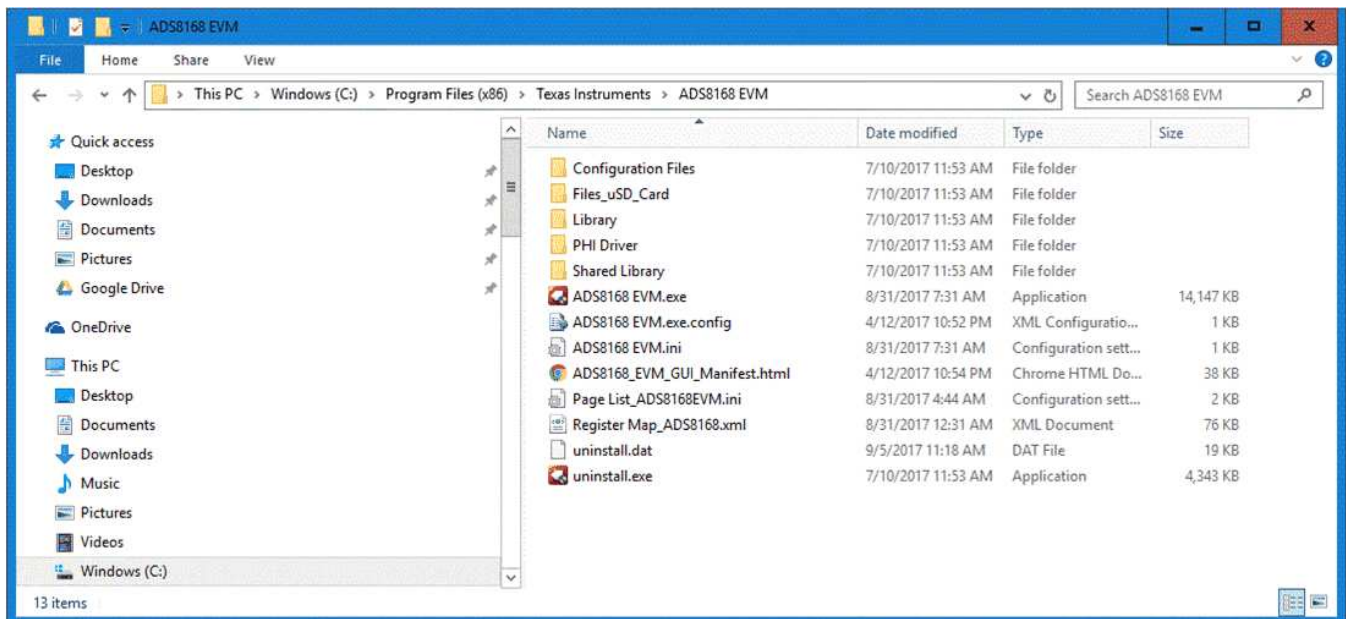

Figure 9. ADS8168 EVM Folder Post-Installation
Step 4. After these installations, verify that C:\Program Files (x86)\Texas Instruments\ADS8168 EVM is as shown in Figure 9.